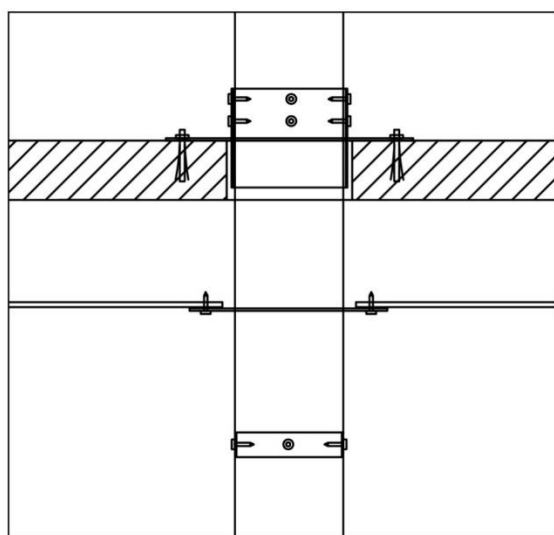

Figure 9
⑨As shown in Figure 9, install the ceiling. After ①②③, install the ceiling decoration ring (hole diameter 28cm), and then finished ④⑤⑥.